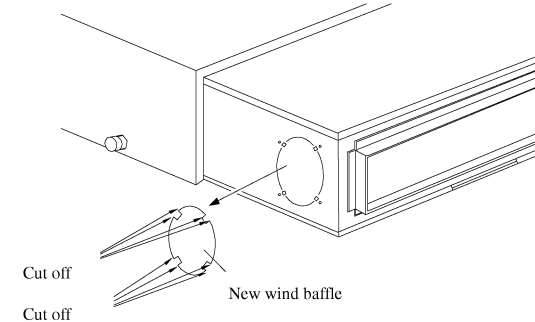

Fig.20
1. When new wind pipe is need to be connected, cut the new wind baffle as shown in fig.20. Plug up the gap of new wind baffle by sponge if new wind pipe is not used.